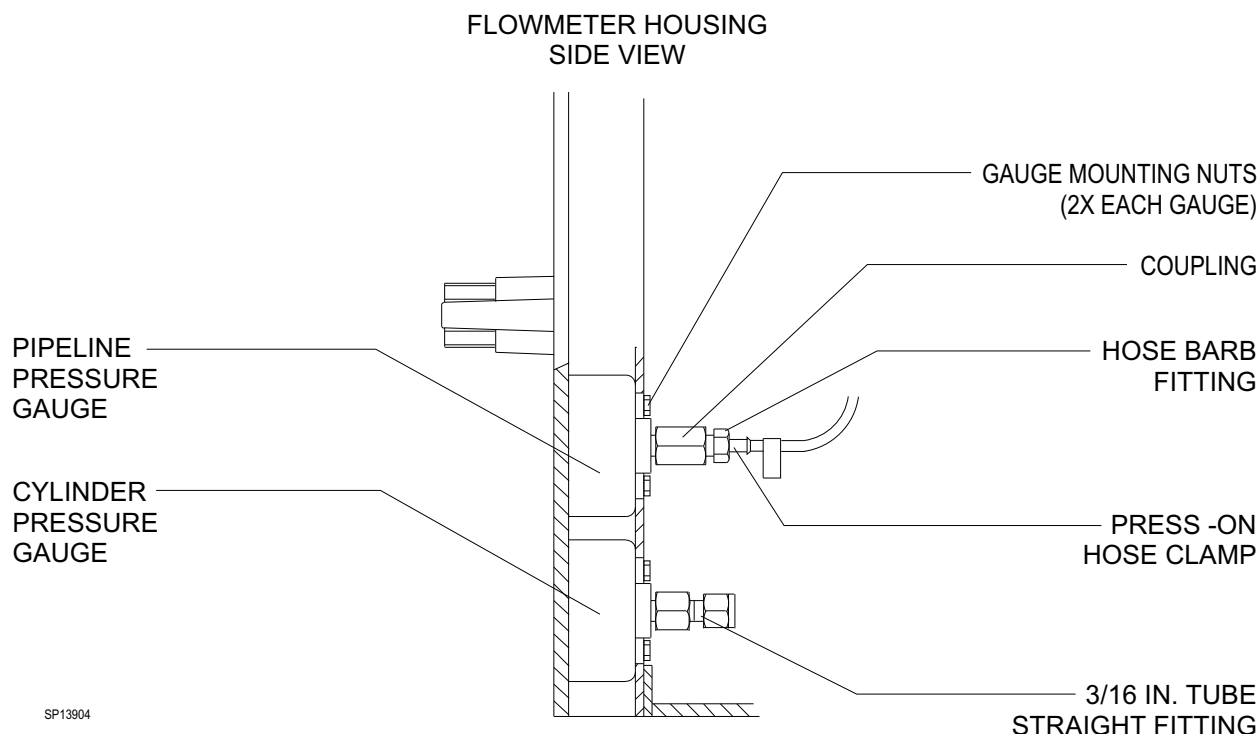

Figure 4: GAUGE INSTALLATION
36. Place the pipeline pressure gauge in the top center position and secure it with two nuts (P/N HW55002) as shown in Figure 4.
37. Place the cylinder pressure gauge in the bottom center position and secure it with two nuts (P/N HW55002) as shown in Figure 4.